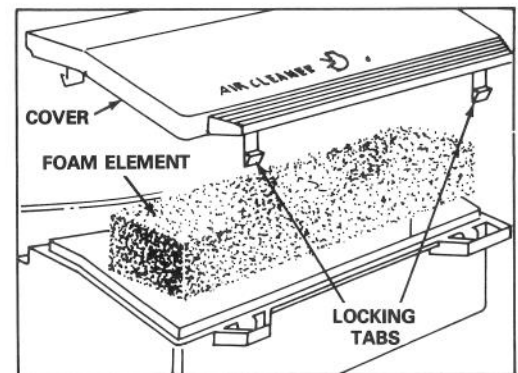

Figure 11
2. Push in locking tabs and lift off air cleaner cover. Clean cover thoroughly (Fig. 11).
3. If top of foam element is dirty, remove it from air cleaner body (Fig. 11). Clean thoroughly.